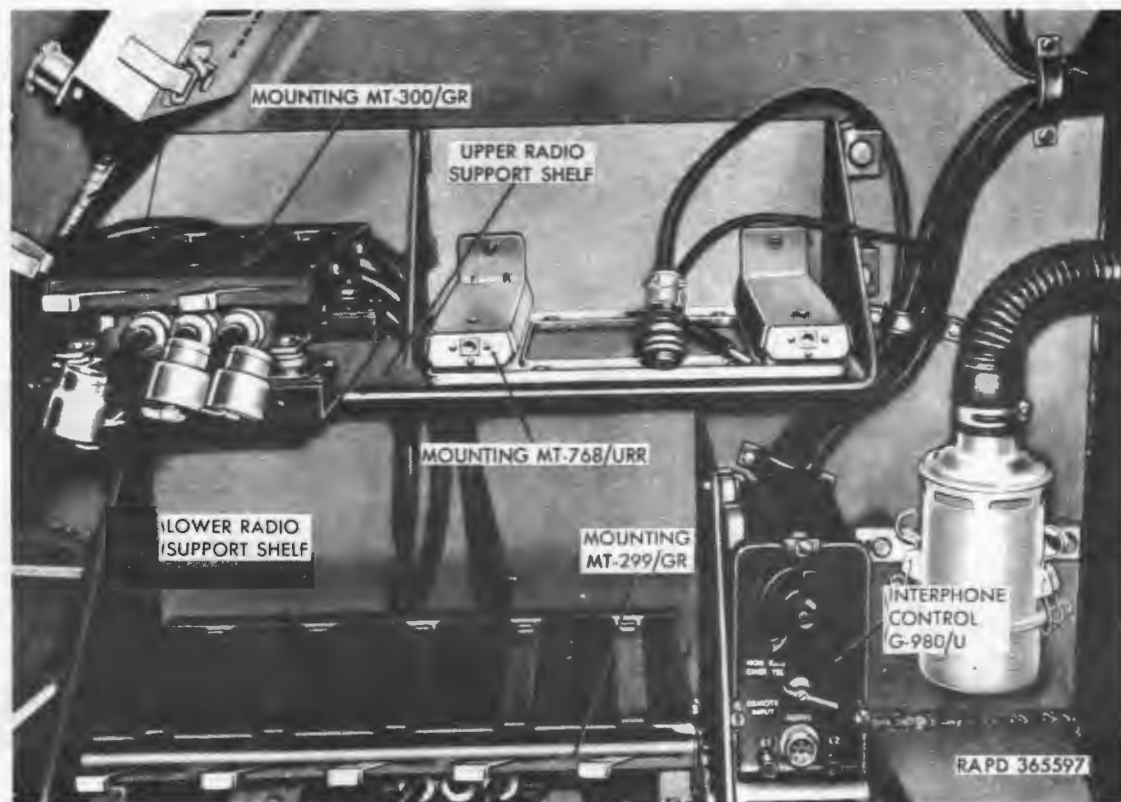
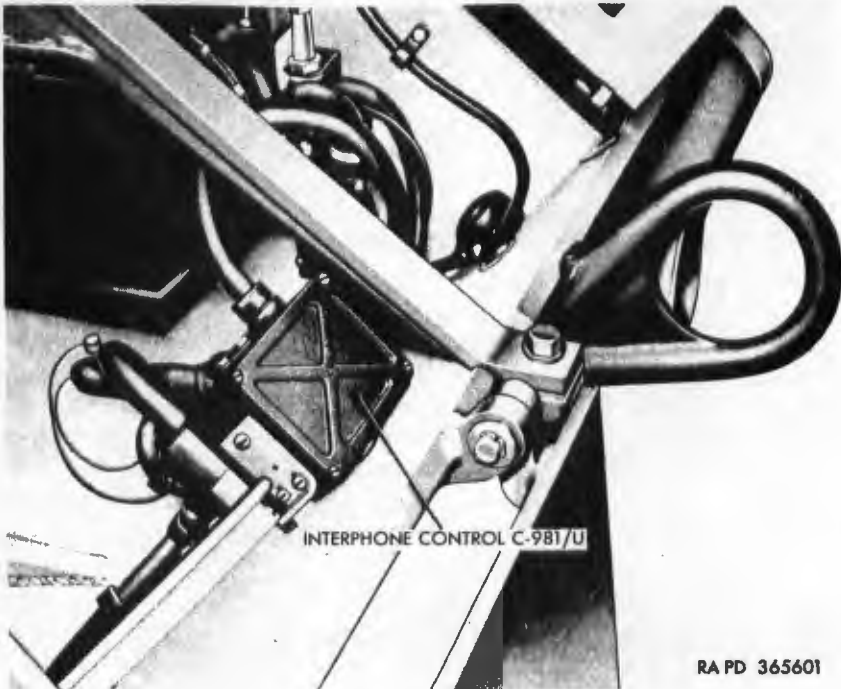
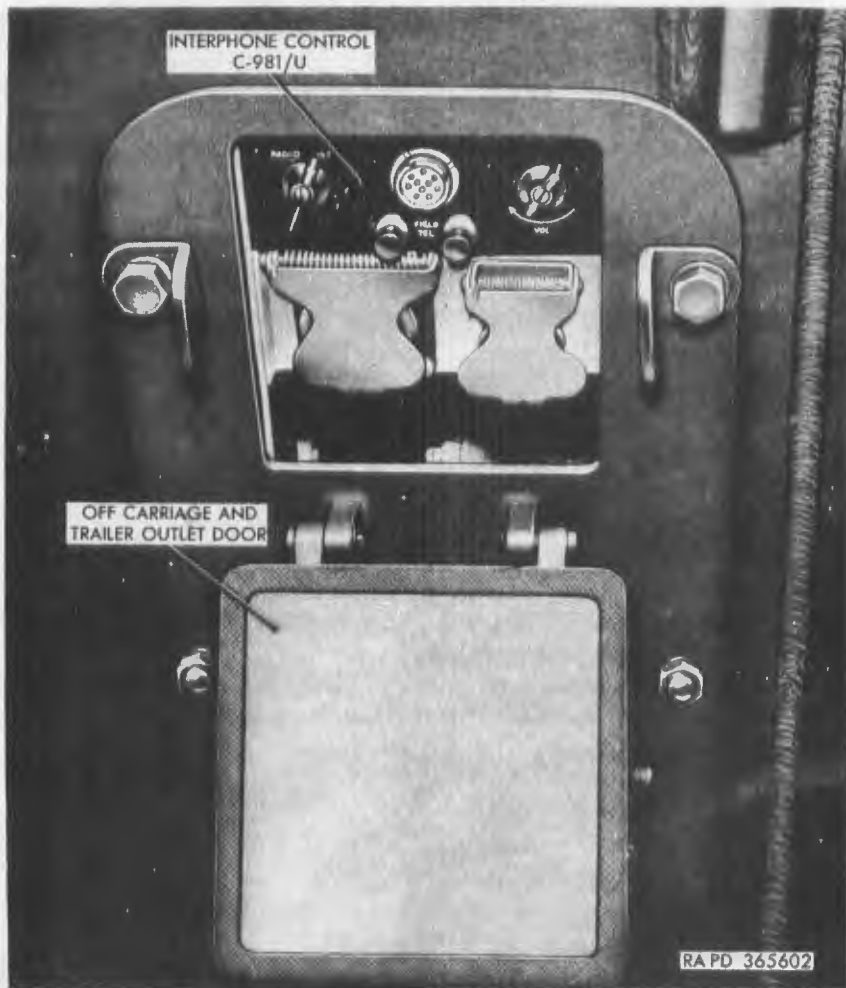

Figure 369. Mountings MT-299/GR, MT-300/GR, MT-768/URR and radio support shelves.
Figure 373. Interphone control C-981/U—engine compartment view.
Figure 374. Interphone control C-981/U—access door open.
- (3) *Mounting MT-299/GR* (fig. 369). The mounting MT-299/GR (TM 11-268) is shock mounted on the communication equipment support shelves and serves as a support for the receiver-transmitter, RT-66/GRC, RT-67/GRC, or RT-68/GRC, power supply PP-112/GR, and also as a junction box for interconnecting this equipment. Locking levers are provided on the front edge of the mounting to secure the transmitter-receiver and power supply.
- (4) *Mounting MT-768/URR* (fig. 369). This mounting provides a support for the radio receiving set AN/GRR-5 and is located on the upper radio support shelf. Two supports are provided across the width of this mounting, to secure the electrical equipment cabinet CY-615/URR of the radio receiving set AN/GRR-5.
plifier AM-65/GRC (fig. 368), mounting MT-300/GR (fig. 369), and 3 control boxes C-375/VRC (figs. 370, 371, and 372) to provide remote control and 3-way switching for plug-in audio accessories.
- (2) *Mounting MT-300/GR* (fig. 369). This mounting provides a shockproof support for AF amplifier AM-65/GRC and is provided with locking levers which secure the amplifier in the mounting channels. A junction box
- (2) Interphone control C-981/U (fig. 373) is located in the right rear corner of the engine compartment with access through a waterproof off carriage and trailer outlet door (fig. 374) at the rear of the vehicle.
AN/UIC-1. Check that master relay switch is in the OFF position. To remove the principal components located on top of mountings MT-299/GR and MT-300/GR (fig. 369), disconnect the antenna lead-in cables at the radio set. Disconnect the cables leading to the terminal boxes under the mountings by removing the connector plugs from receptacles on the front panels of the components. Release the locking devices on the front top of the mountings and remove the components. To remove the mountings from the vehicle, disconnect all cable plugs that interconnect the mountings with the other components. Remove cable clamps securing the cables to the vehicle. Remove the screws at the top edges of the mountings and then remove the top plate making accessible the screws which secure the shock mount adapter plates to the vehicle. Remove these screws, coil the cables attached to the mountings, and withdraw equipment from the vehicle. To remove control boxes C-375/VRC, disconnect the pin-and-socket connectors on the cables joining with the other components in the vehicle. Remove cable clamps, two cap screws, and spacers that secure each control box (fig. 370) to their mounting brackets. Remove the control boxes with cables attached.
b. Radio Receiving Set AN/GRR-5. To remove the principal components located on mounting MT-768/URR (fig. 369), disconnect the antenna lead-in cable, the power cable, and the audio cable from the front panel of the radio set. Unscrew the two knurled knobs at the lower front edge of the radio set and remove the case from the mounting. Remove the screws securing the mounting to the vehicle and take out the mounting.
c. Interphone Controls C-980/U and C-981/U. To remove interphone control C-980/U (fig. 369), disconnect the two cables leading to the other components by unscrewing the plug-locking screws and removing the connectors from the front panel receptacles. Disconnect the two telephone wire leads from the binding posts on the same panel. Remove the cap screws that secure the interphone control C-980/U to the mounting bracket and remove the control from the vehicle. To remove interphone control C-981/U (fig. 373), remove the two cap screws securing the control to the hull rear plate. Remove the cover of the unit and disconnect the eight cable terminals from the terminal strip. A diagram should be made of the hookup before it is disconnected so that it can be installed correctly.